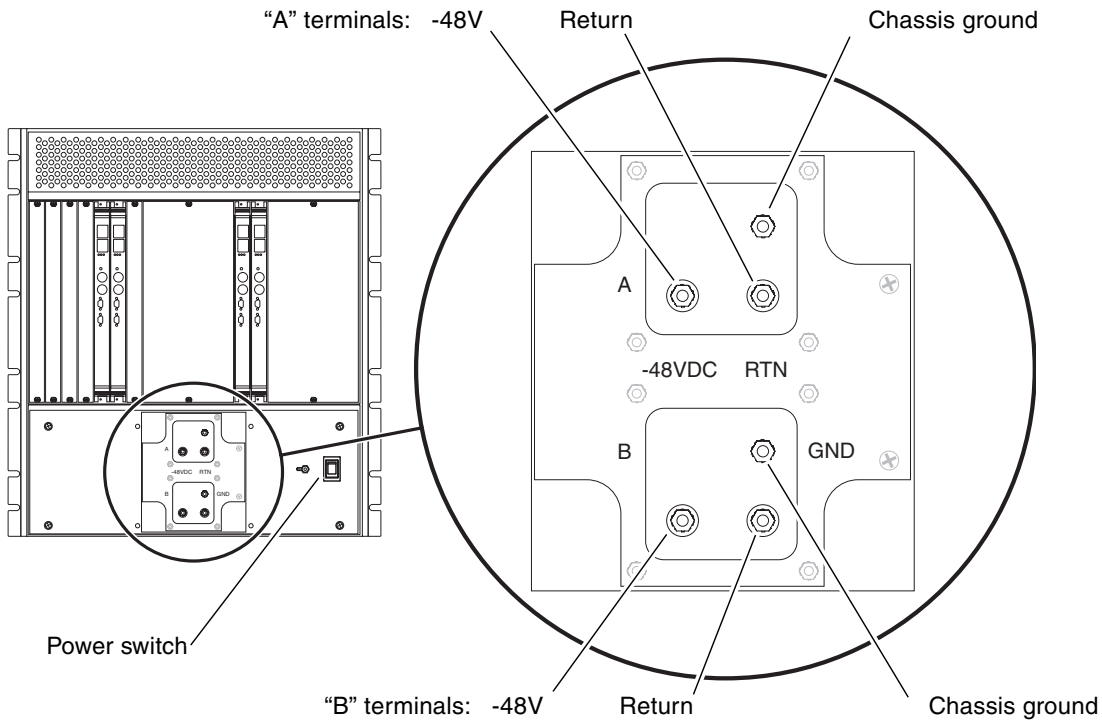

FIGURE 2-4 DC Power Input Panel
3. Attach the cables to the A and B terminal posts on the DC power input panel (FIGURE 2-4).